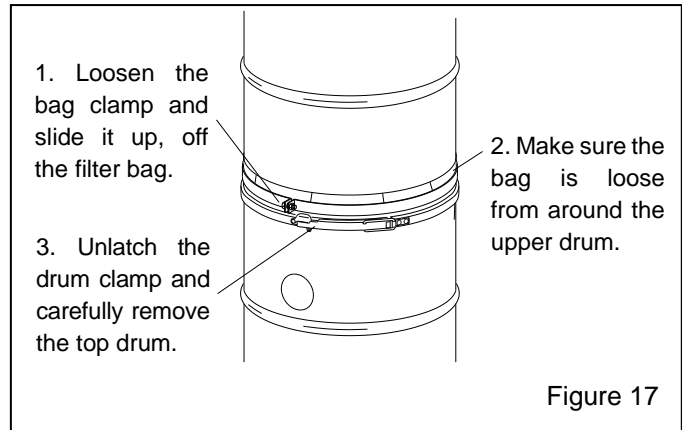

Figure 17
**9.8 Filter-Bag Replacement, Figure 17**
9.8.3 Loosen the bolt securing the bag clamp to the upper drum, slide the bag clamp up off the bag, and loosen the bag from the rim on the upper drum, as noted in Figure 17. Doing so loosens the bag from the upper drum assembly and keeps the old bag in the lower dust-storage drum.